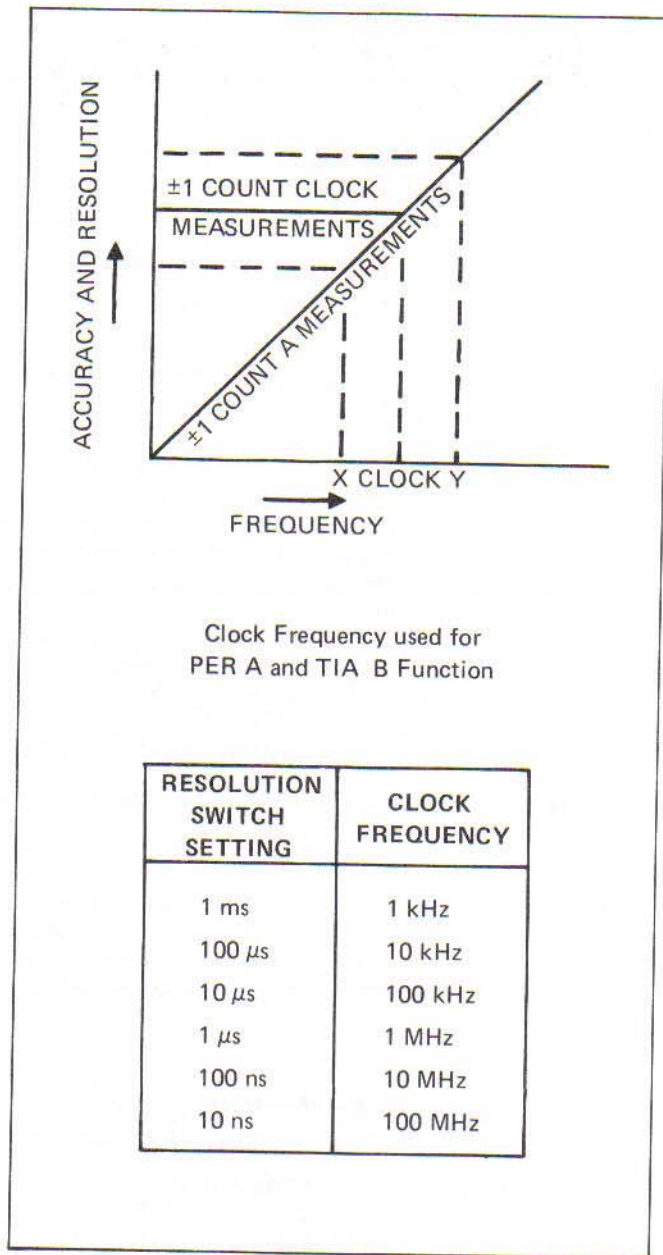

Figure 2-13. Accuracy and Resolution versus Frequency
2. The accuracy of functions affected by ± 1 count A depends upon the frequency of the input signal. As frequency increases, accuracy increases. As frequency decreases, accuracy decreases. The sloped line (± 1 count A), in Figure 2-13, illustrates this concept. With a higher frequency input, more counts will be made per gate time, and ± 1 count error will become less significant. The percentage error is thereby reduced.
3. The accuracy of functions, affected by the ± 1 count clock depends upon the frequency of the clock used. Since the clocks are all based on the precision time base, accuracy is a constant for each clock and is completely independent of the frequency of the input signal. The straight line (± 1 count clock) that intersects the ± 1 count A line at clock frequency in Figure 2-13 illustrates this function. Any noise or distortion on the input signal will degrade the accuracy level.
4. FREQ A and PER A functions can be used selectively to maximize accuracy of frequency measurements over the range of Channel A. The relationship between the two measurement functions is shown in Figure 2-13. The following can be drawn by this function comparison.